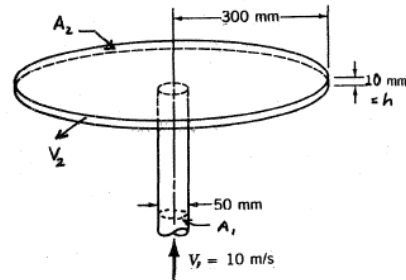

FIGURE P5.7
5.7 Water flows along the centerline of a 50-mm-diameter pipe with an average velocity of 10 m/s and out radially between two large circular disks as shown in Fig. P5.7. The disks are parallel and spaced 10 mm apart. Determine the average velocity of the water at a radius of 300 mm in the space between the disks.